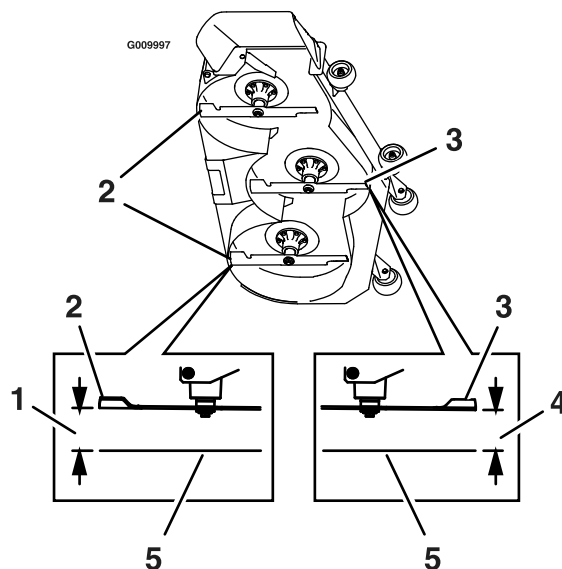

Figure 76
7. Measure from the level surface to the front tip of the center blade (Figure 76).